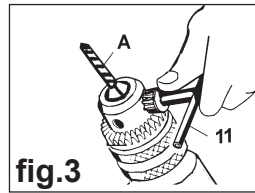

fig.3
Open or close the chuck jaws to a point where the opening is slightly larger than the drill or tool bit to be used. Raise the front of the drill slightly to stop the bit from falling out of the chuck jaws. Insert the drill bit (A) into the chuck as far as it will go. Place the chuck key (11) in one of the chuck holes and tighten the chuck securely (fig 3).